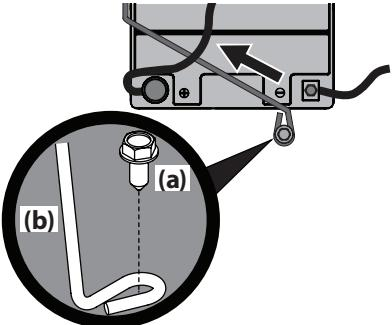

**Figure 14**
- Remove the hex washer screw (a) securing the battery hold-down rod (b) to the frame. Then flip the battery hold-down rod (b) up to free the battery. See Figure 14.